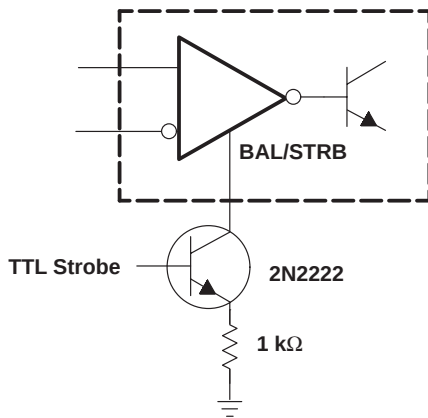

Figure 13. Strobing
6. The strobe should not be shorted to ground; it should be current driven at –3 mA to –5 mA (see Figures 13 and 27).